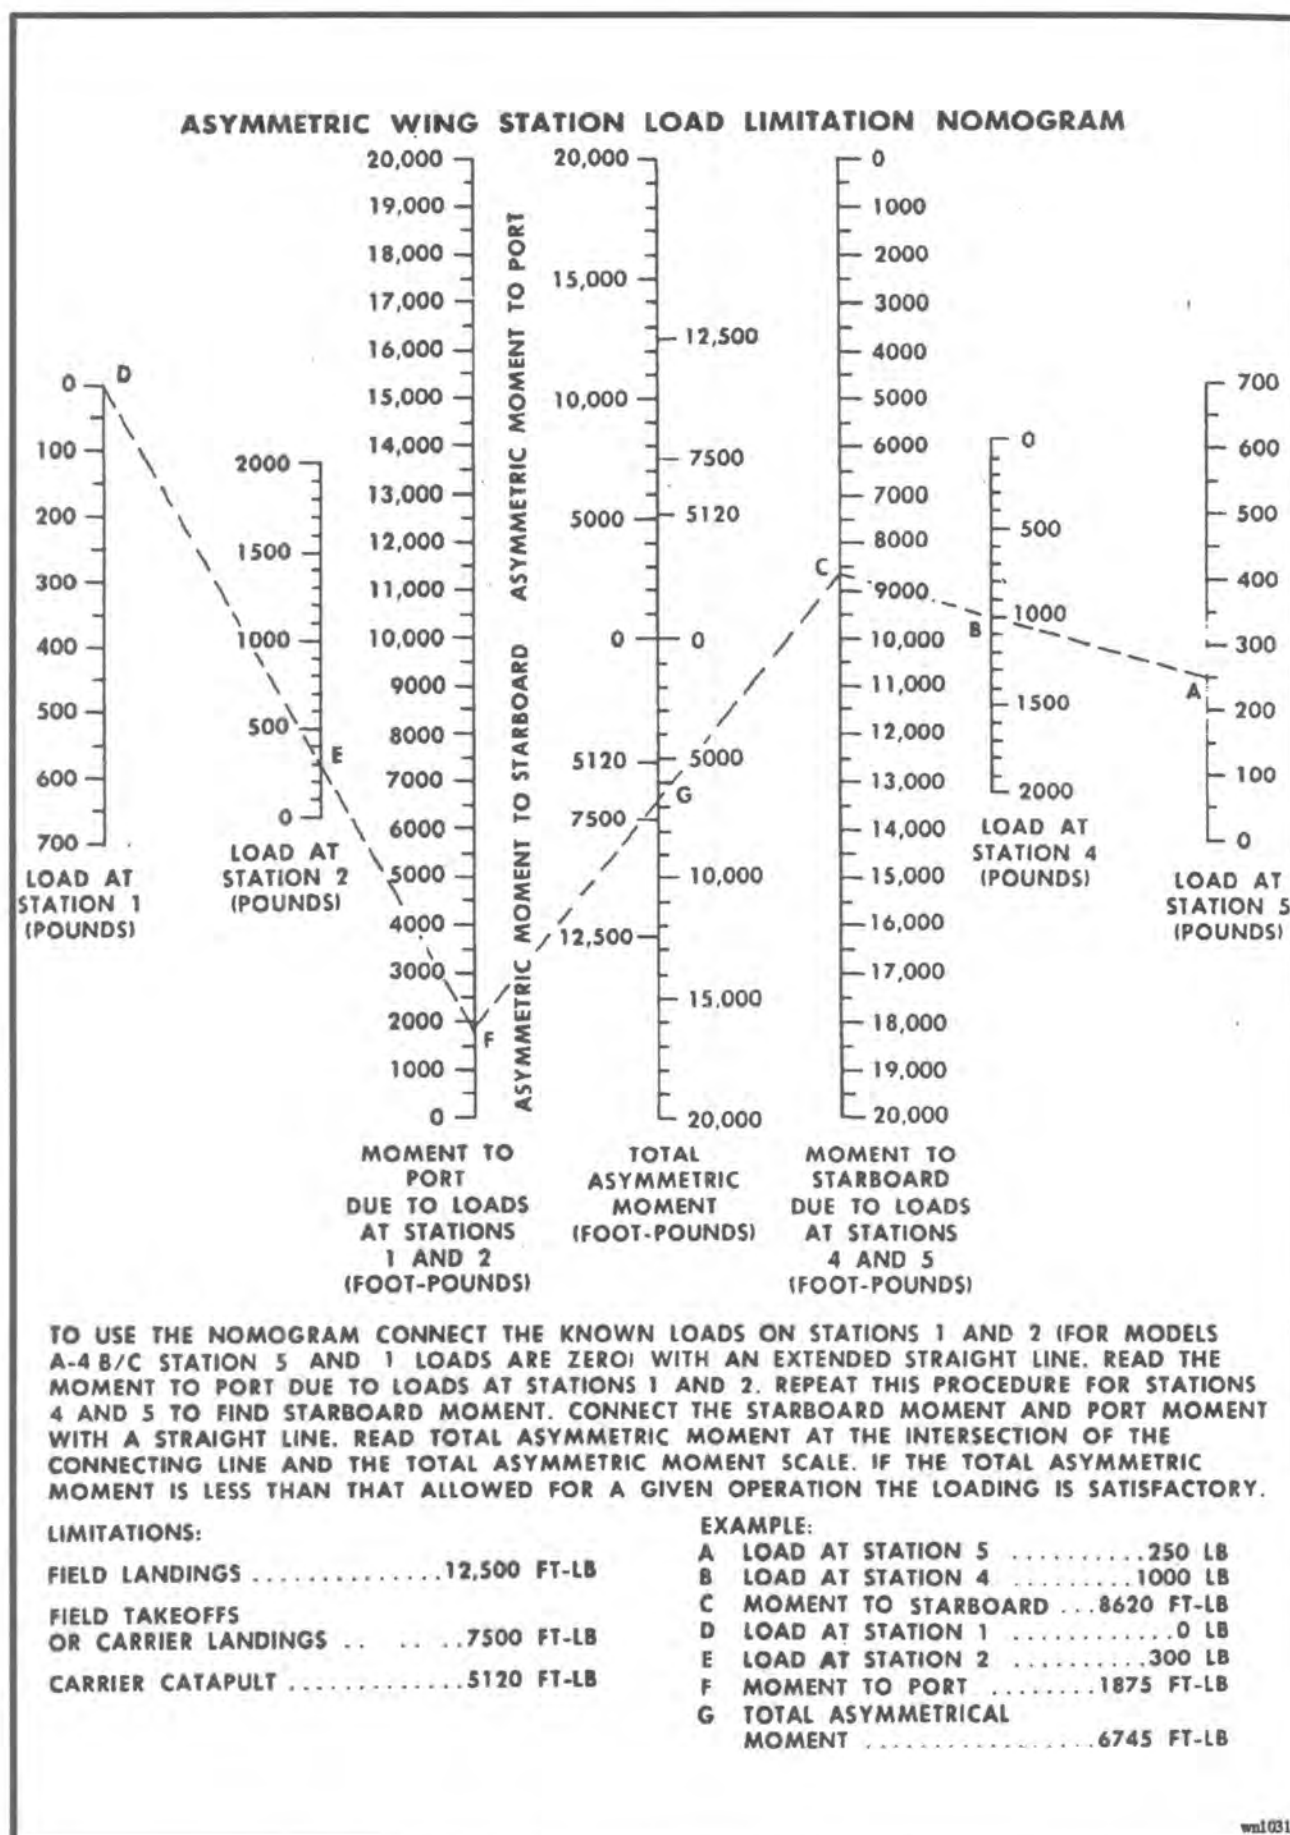

Figure 4-2 Asymmetric Wing Station Load Limitation Nomogram
- 4.10 Asymmetrical store loading up to 7500 foot pounds of static moment on either wing are permitted for takeoff. Asymmetric load at outboard station times 9.48 plus asymmetric load at inboard station times 6.25 must not exceed 7500 foot-pounds (Refer Figure 4-2).
- 4.11 Landings are permitted with an asymmetric store loading up to 12,500 foot-pounds. The minimum approach speed is 115 knots with up to 7500 foot-pounds asymmetric moment, varying linearly to 130 knots at 12,500 foot-pounds. For rapid computation of allowable asymmetric loading refer to Figure 4-2